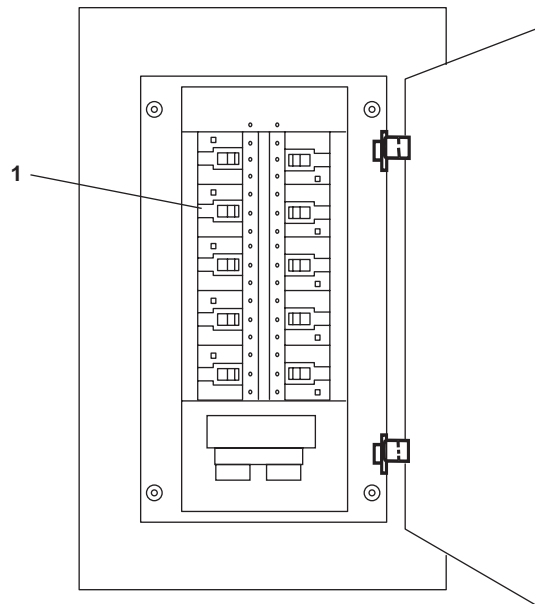

Figure 6. 440V Power Panel No. 4
6. Set to OFF, lock out, and tag out (FM 55-502) the MSD DISCHARGE PUMP AND BLOWER circuit breaker (**LT 803 Only**), or the CONTROLLER FOR MSD DISCHARGE PUMP AND BLOWER circuit breaker (**All Other Vessels**) (figure 6, item 1) in 440V power panel No. 4.